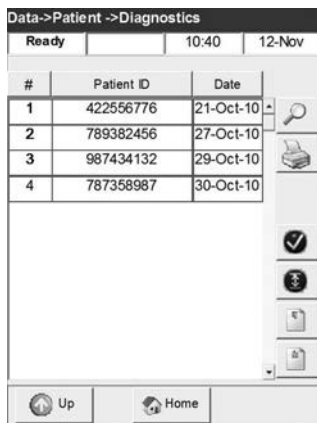
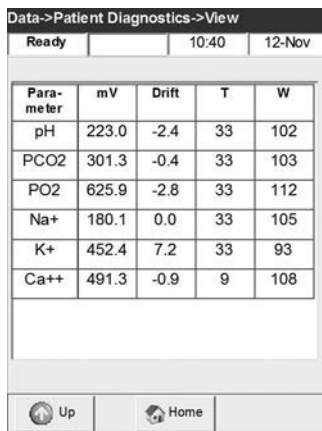

Fig. 7-44 Select Measurement
Fig. 7-45 Patient Diagnostics
- In the **<Data - Patient Diagnostics>** screen (Fig. 7-44), select the desired measurement and press the **View** button to display the results (Fig. 7-45). Use the **Up** and **Down** buttons to display the previous or next page of results.
- To print individual results, highlight the desired measurement (Fig. 7-44). To print groups of results, highlight the first measurement to be printed, press **Mark**, then select the last measurement to be printed. All the measurements in between will be selected. Press **All** to select all results.